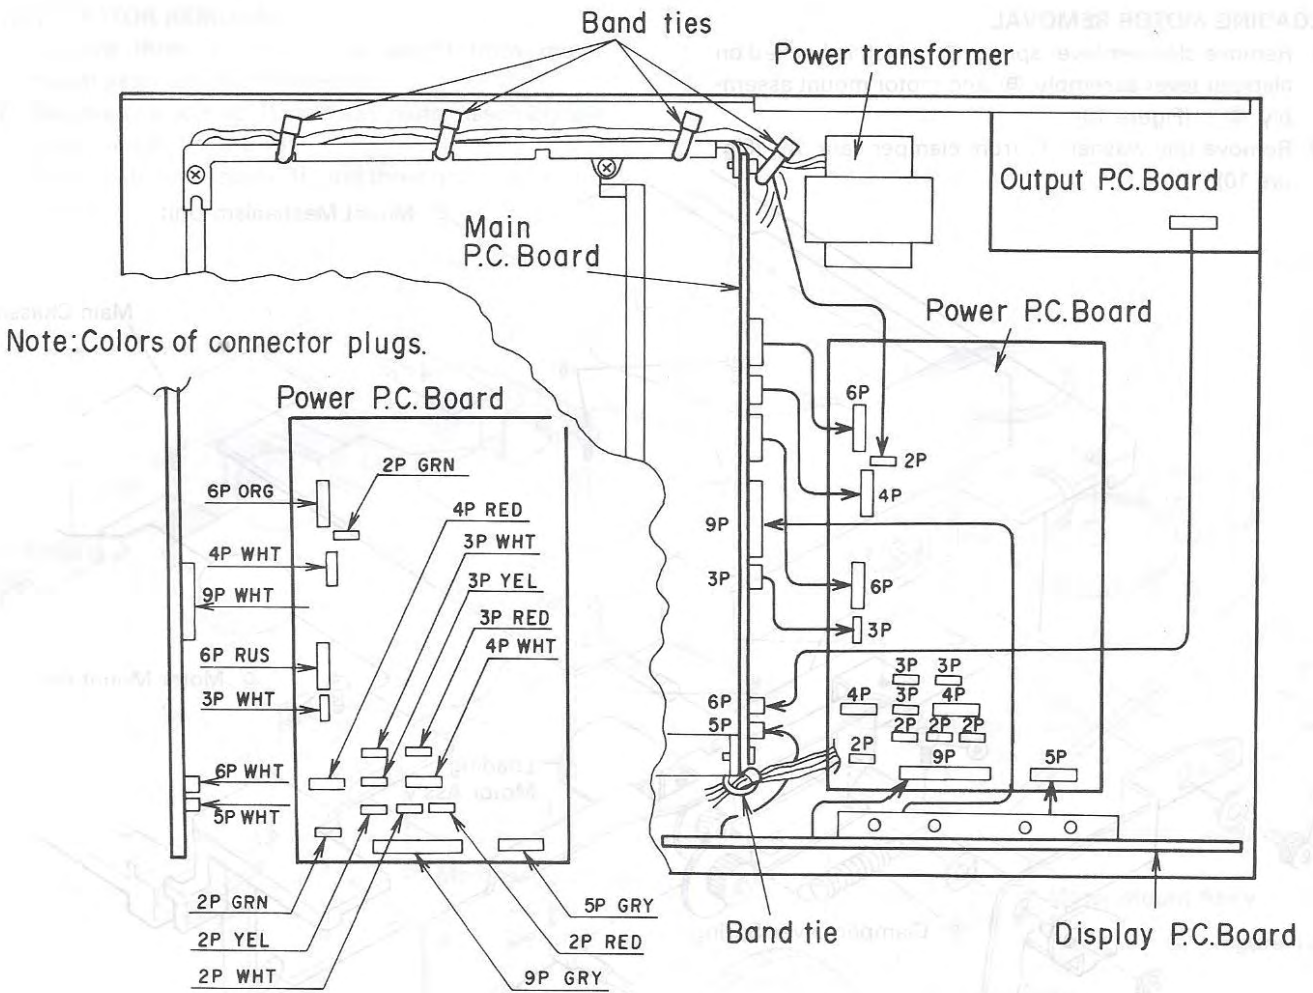

Figure 8
6. Disconnect three connector plugs from Main P.C. Board and sixteen connector plugs from Power P.C. Board, and cut five band ties. (Figure 8)
5. Disconnect three connector plugs from Main P.C. Board and sixteen connector plugs from Power P.C. Board, and cut five band ties. (Figure 8)